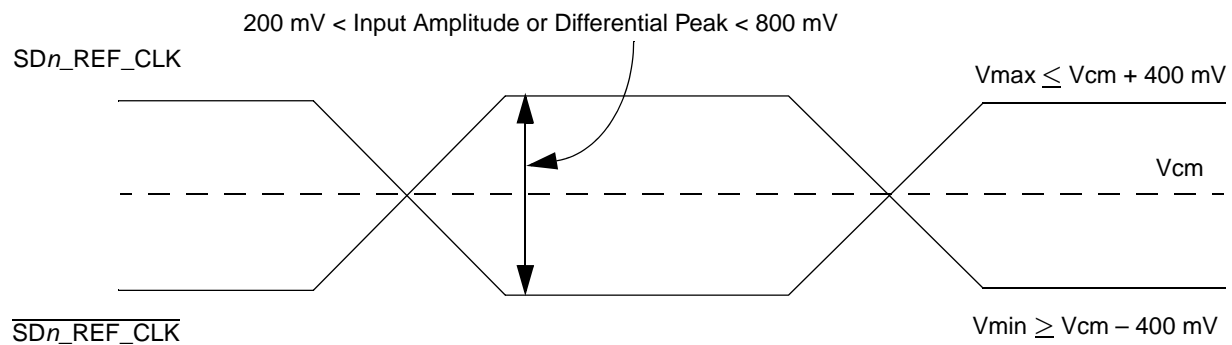

Figure 46. Differential reference clock input DC requirements (External AC-coupled)
- For **external AC-coupled** connection, there is no common mode voltage requirement for the clock driver. Since the external AC-coupling capacitor blocks the DC level, the clock driver and the SerDes reference clock receiver operate in different command mode voltages. The SerDes reference clock receiver in this connection scheme has its common mode voltage set to SV_{SSn} . Each signal wire of the differential inputs is allowed to swing below and above the command mode voltage (SV_{SSn}). Figure 46 shows the SerDes reference clock input requirement for AC-coupled connection scheme.